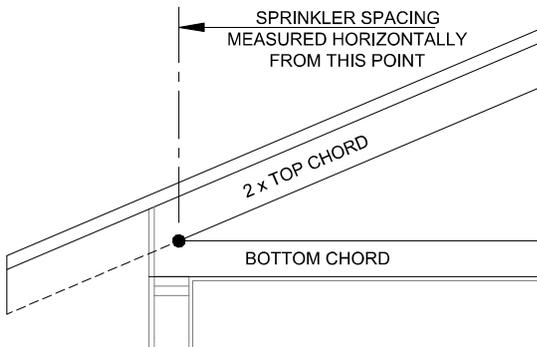

FIGURE 2A
- When utilizing this option, Model FL-SA/DS sprinklers are used to protect the entire width of the attic space from the eave to the vertical barrier of the single slope. The span of the attic is measured along the floor (or ceiling of floor below) of the attic space from the peak/vertical barrier to the intersection of the top chord and bottom chord of the roof trusses. See Figure 2A and Figure 2B.
- When utilizing this option, Model FL-SA/DS sprinklers are used to protect the entire width of the attic space from the eave to the vertical barrier of the single slope. The span of the attic is measured along the floor (or ceiling of floor below) of the attic space from the peak to the intersection of the top chord and bottom chord of the roof trusses. See Figure 2A and Figure 2B.